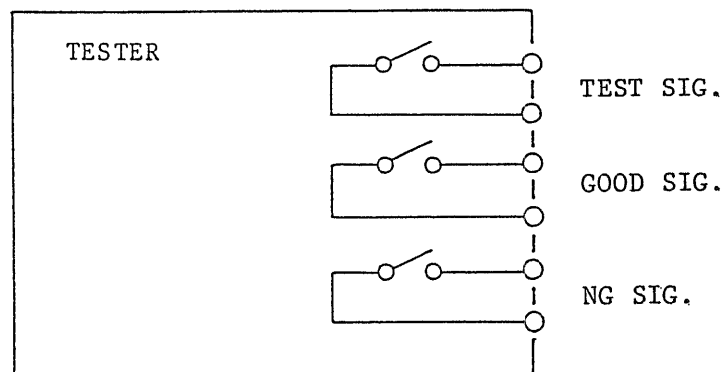

Figure 4.10
①	TEST	During test period	Make-contact signal Ratings: 100 V AC, 1 A 30 V AC, 1 A
②	GOOD	For 200 msec when test is over
③	NG	When NG judgment is made
- ① TEST ON signal: This signal is generated and remains on for the entire period of the test.
- ② GOOD signal: This signal is generated when the GOOD judgment is done at the end the test with the timer. The signal lasts for approximately 200 msec.
- ③ NG signal: This signal is generated when the NG judgment is done. The signal lasts until the next RESET signal is applied.
(2) Contact Signals
- ① The contact signals are only with contacts and without any power sources as shown in Figure 4.10. Therefore, they cannot drive any loads which have no own power sources.